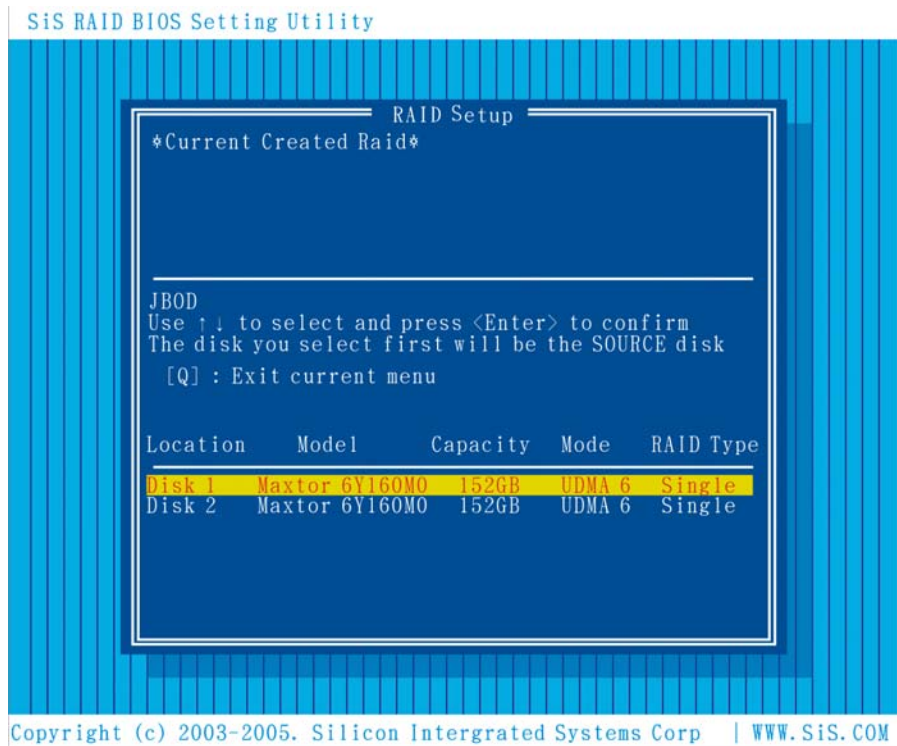

Figure 8-6: JBOD Drive Selection
- Step 4:** If manual configuration is selected, the screen in **Figure 8-6** appears.